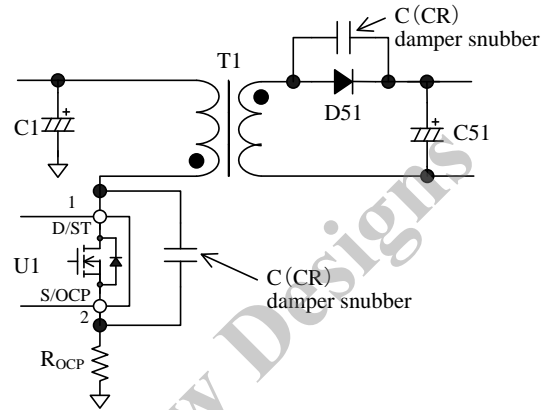

Figure 9-24 Damper snubber circuit
In addition, if a C (RC) damper snubber of Figure 9-24 is used, reduce the capacitor value of damper snubber. If the turn-on timing isn't fitted to a  $V_{DS}$  bottom point, adjustments are required (refer to Section 9.7.2).